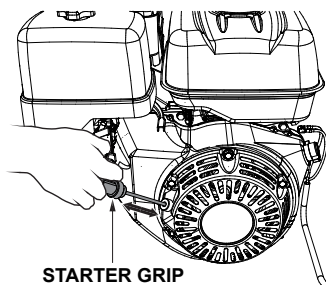

Figure 25. Starter Grip
6. Grasp the starter grip (Figure 25) and slowly pull it out. The resistance becomes the hardest at a certain position, corresponding to the compression point. Pull the starter grip briskly and smoothly for starting.